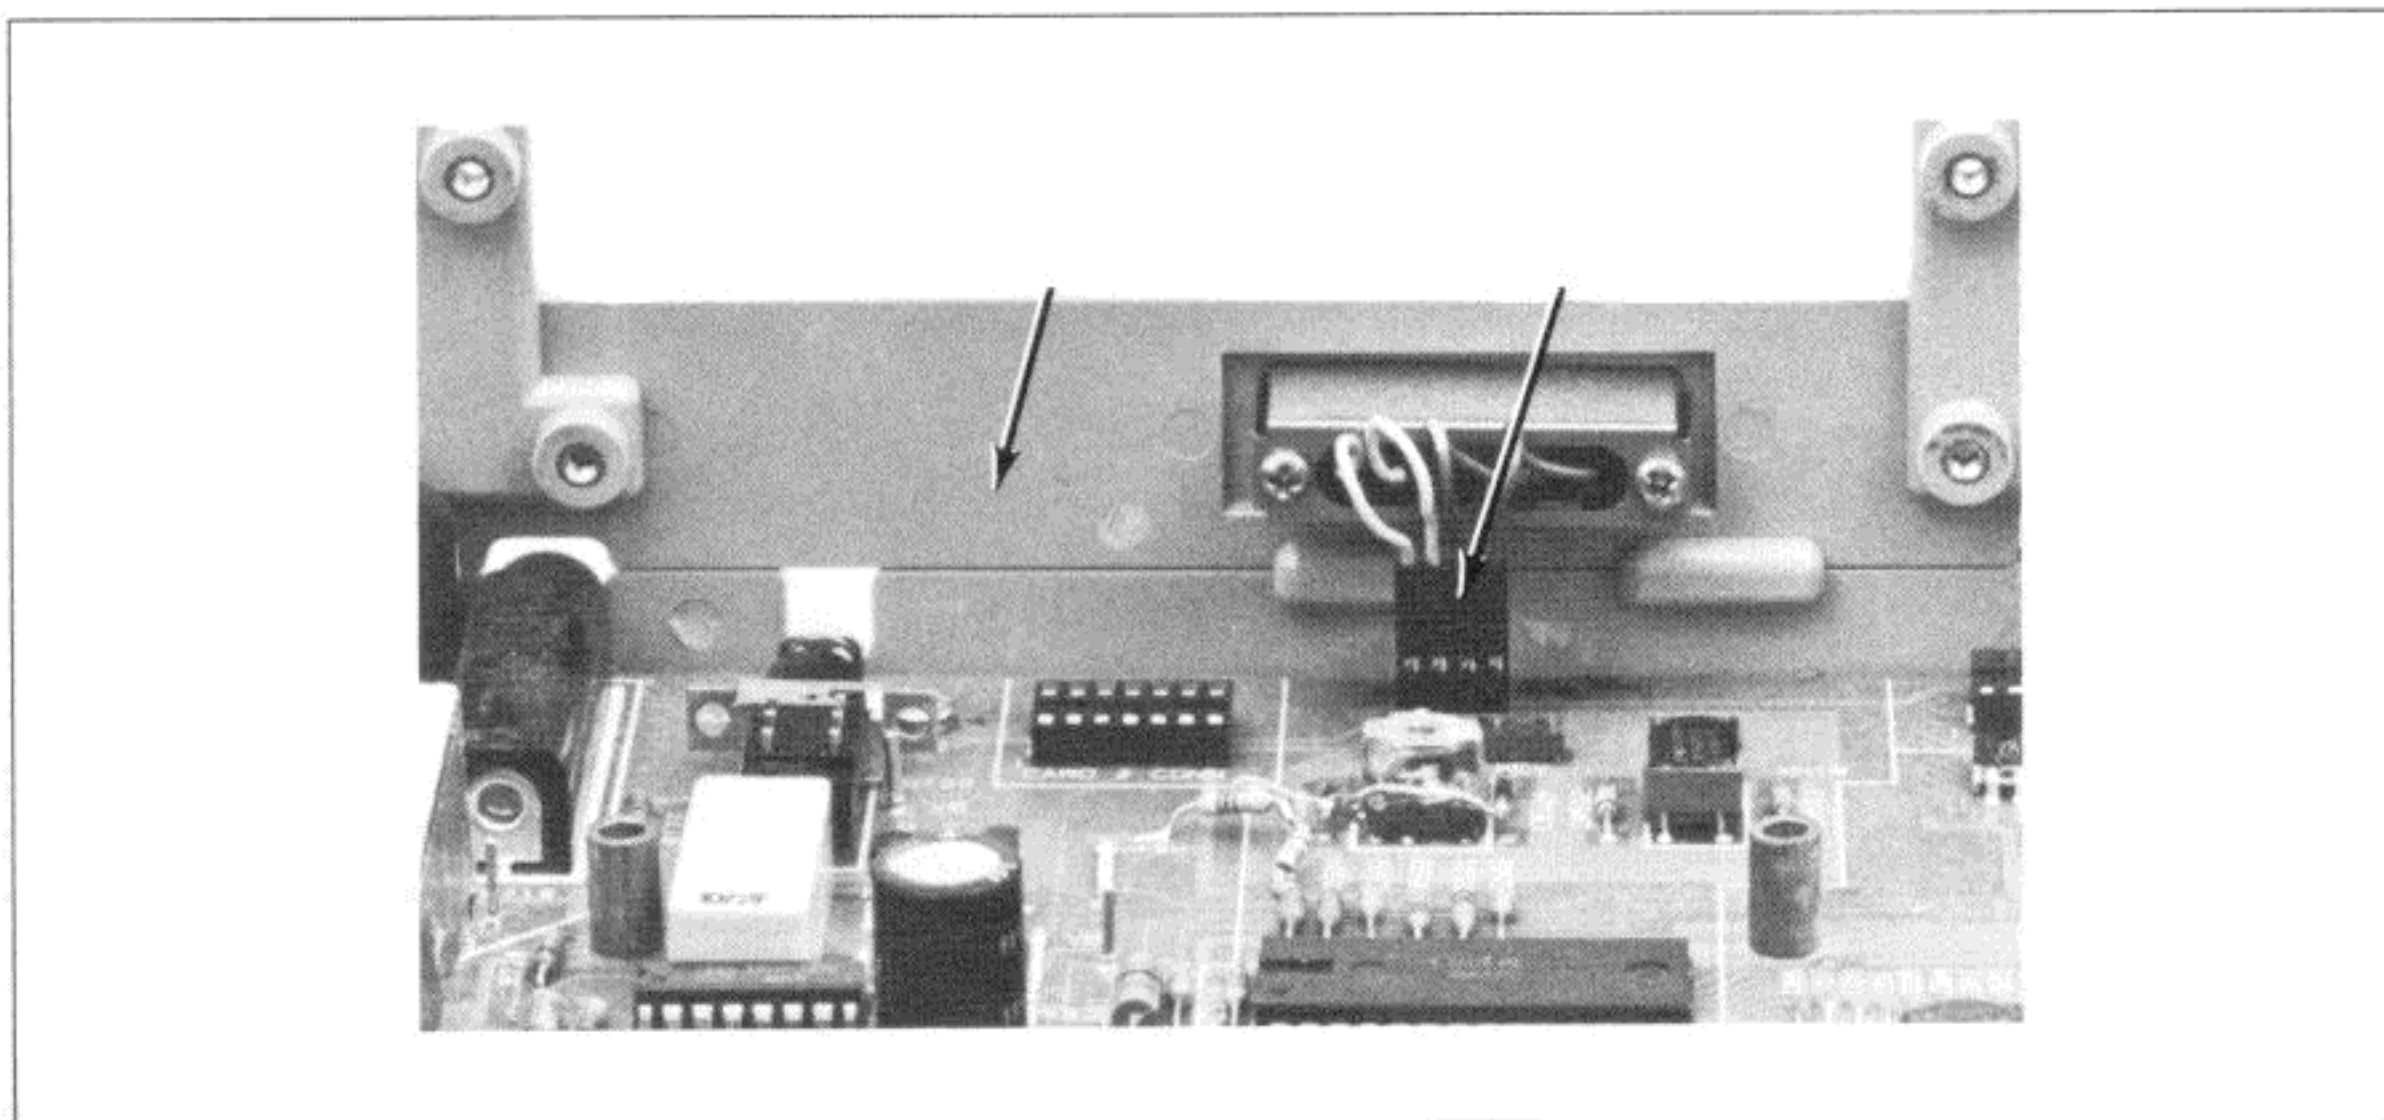

Figure 4-2-5. HP-IL Back Panel and Connector
- i. Remove the old back panel with the HP-IL connector. Unplug the HP-IL connector from the motherboard, as shown in Figure 4-2-5.